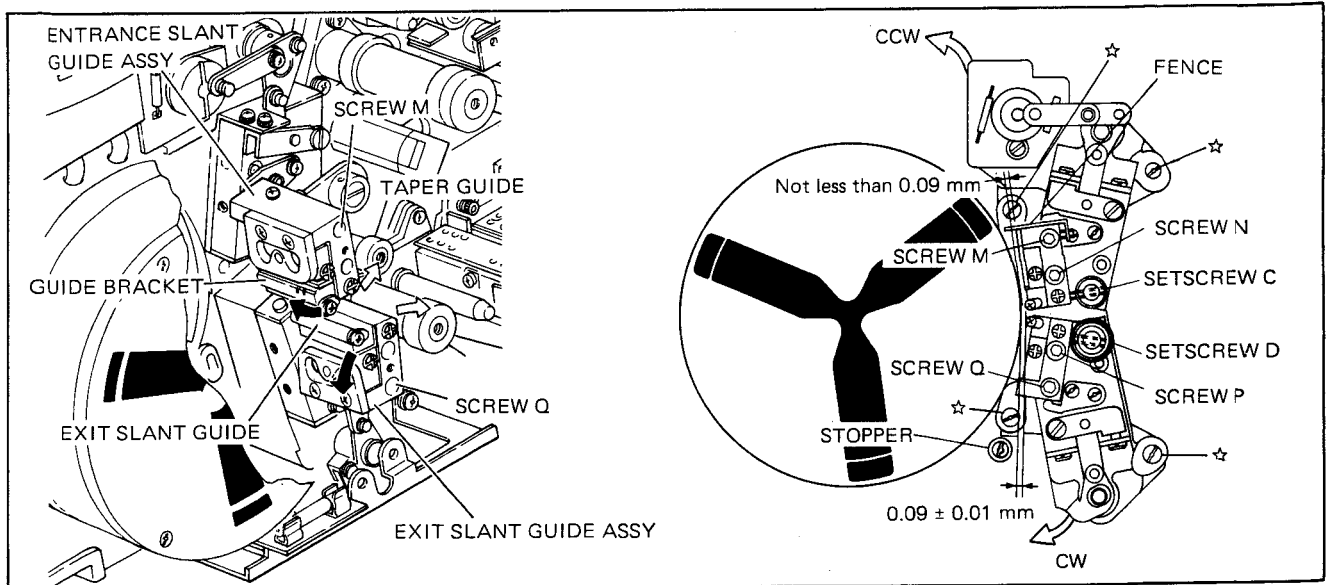

Fig. 10-26. Overlap Adjustment
- 1. When the overlap B is less than the specified value (see Fig. 10-26).
2. When the overlap C is less than the specified value (see Fig. 10-26);